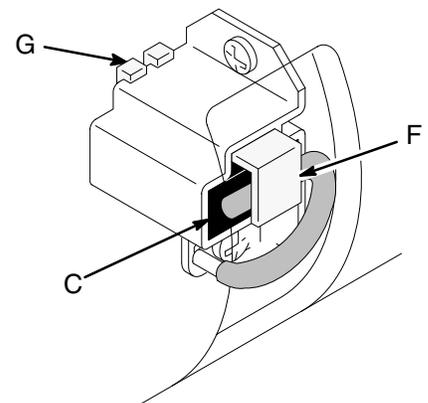

Fig. 16
8. Holding the spring/clip (F) at a slight angle, slide the spring/clip into the brush holder and hook it over the end of the holder (G). See Fig. 16. Pull on the spring/clip to be sure it stays in place. Be sure the brush lead is tucked under the spring/clip tab.